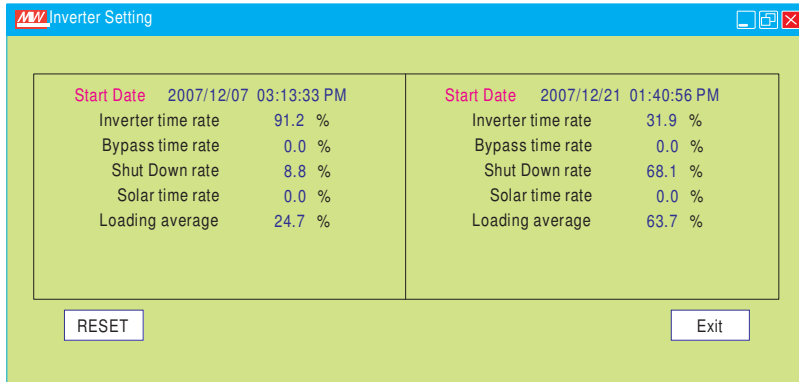

Figure 4
2. Statistics: Calculate for the percentage of operating period for each operation mode. Please refer to Figure 4 for details.